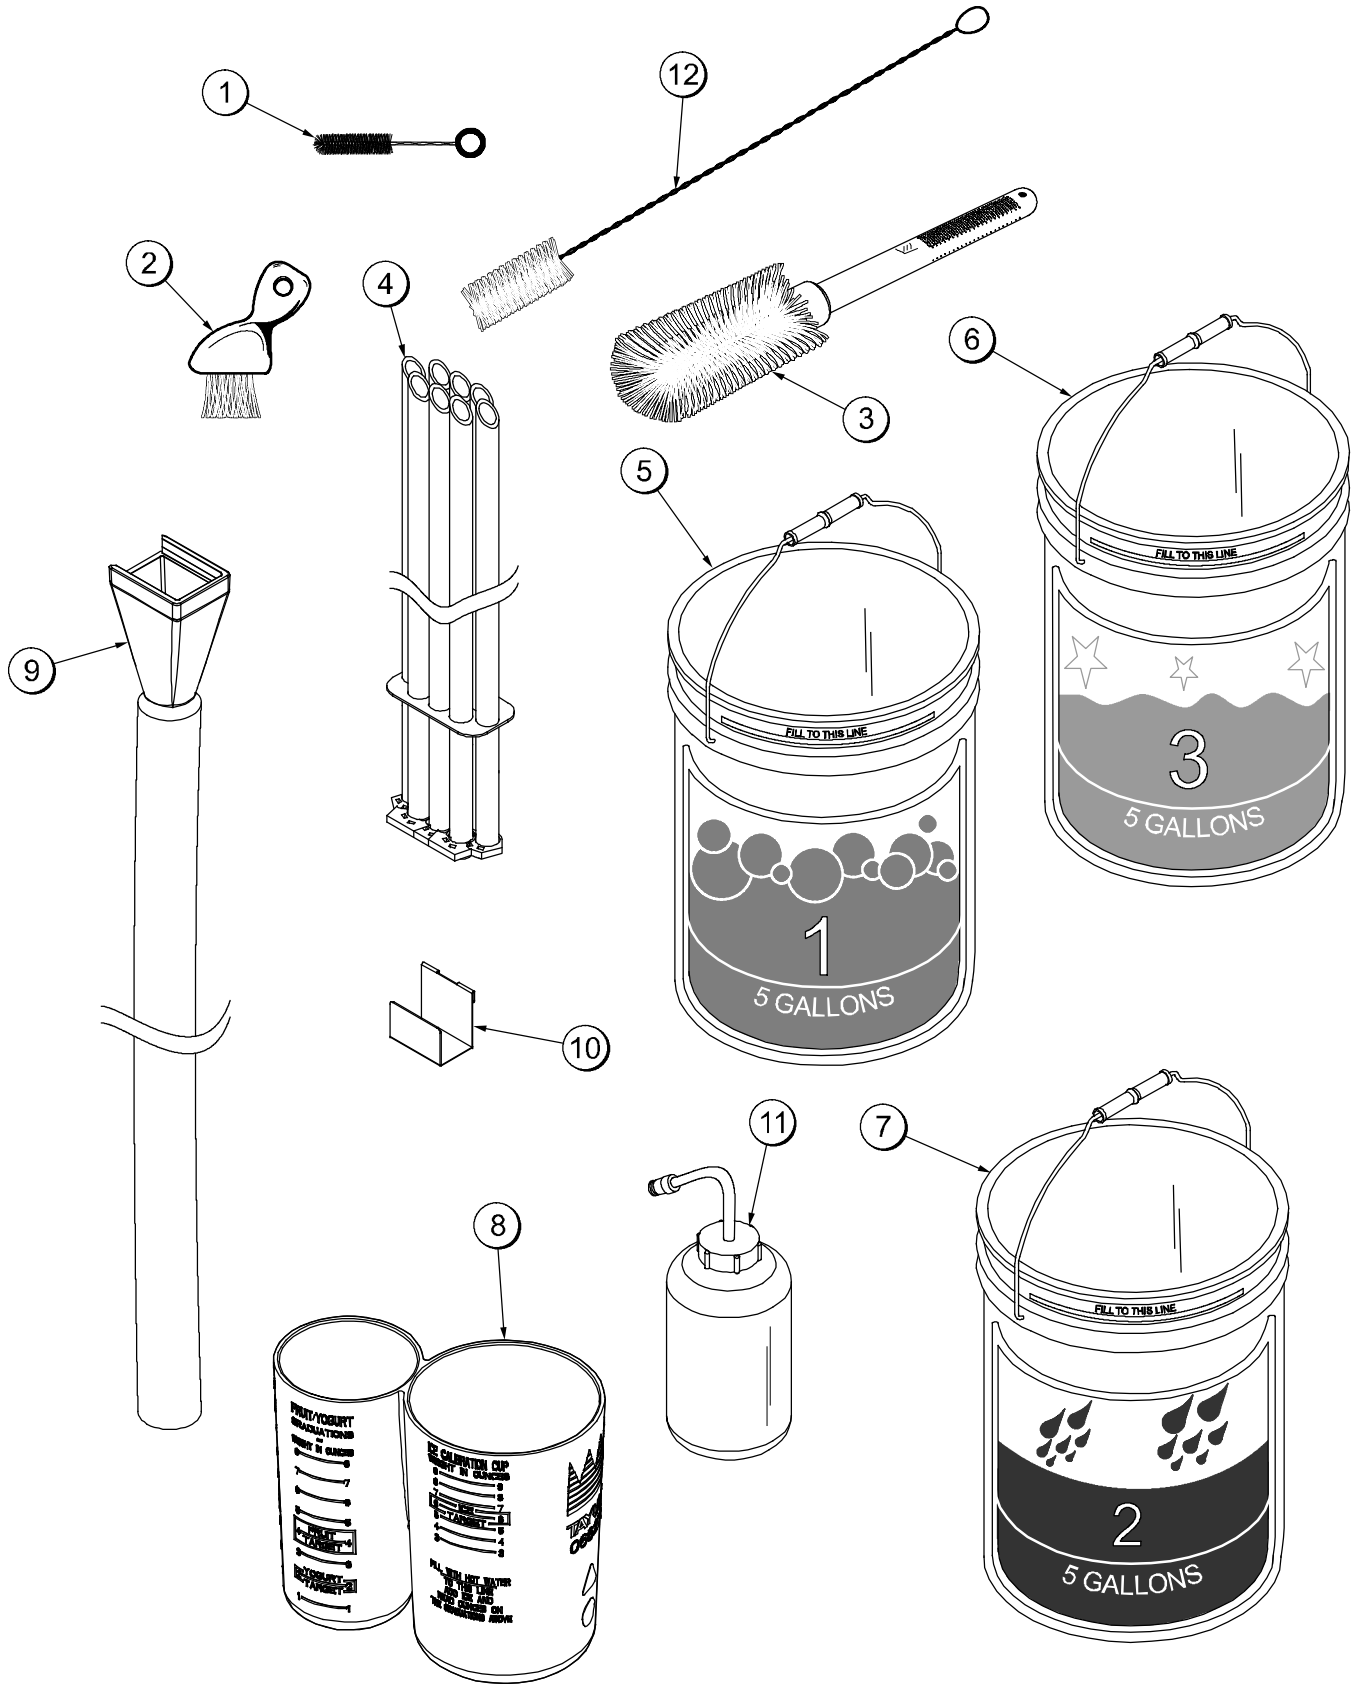

Figure 2
**Accessories (See Figure 2)**